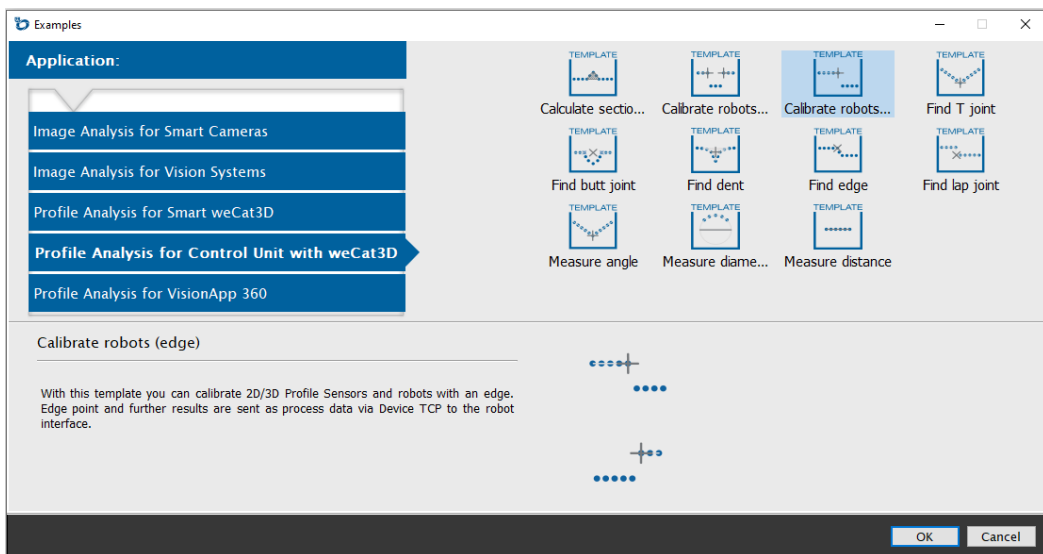

Fig. 1: Template for calibrate robots (edge)
- Calibrate robots (edge, see Fig. 1)